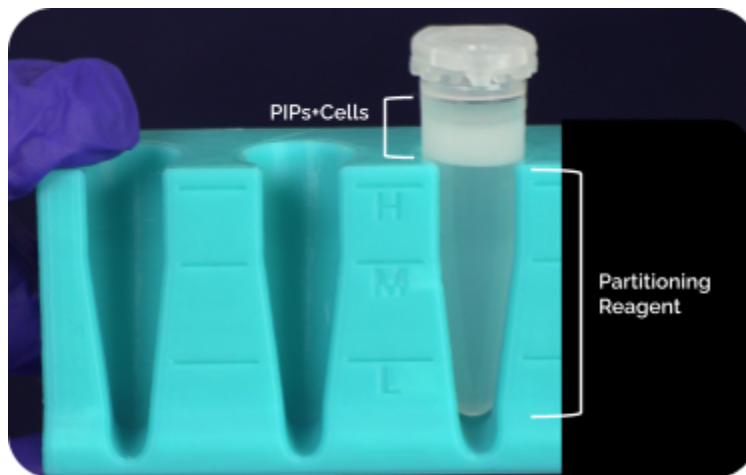

Figure 3. Emulsified PIPs and cells are seen floating in the top phase while the excess Partitioning Reagent in the bottom phase.
9. Remove the PIP tubes from the vortex adaptor and place them into the 1.5 mL stand (FB0002590). Let emulsion stabilize for 30 seconds and then proceed to the next step. The reaction will first appear cloudy then the PIP emulsion will separate and two phases can be observed (Figure 3).